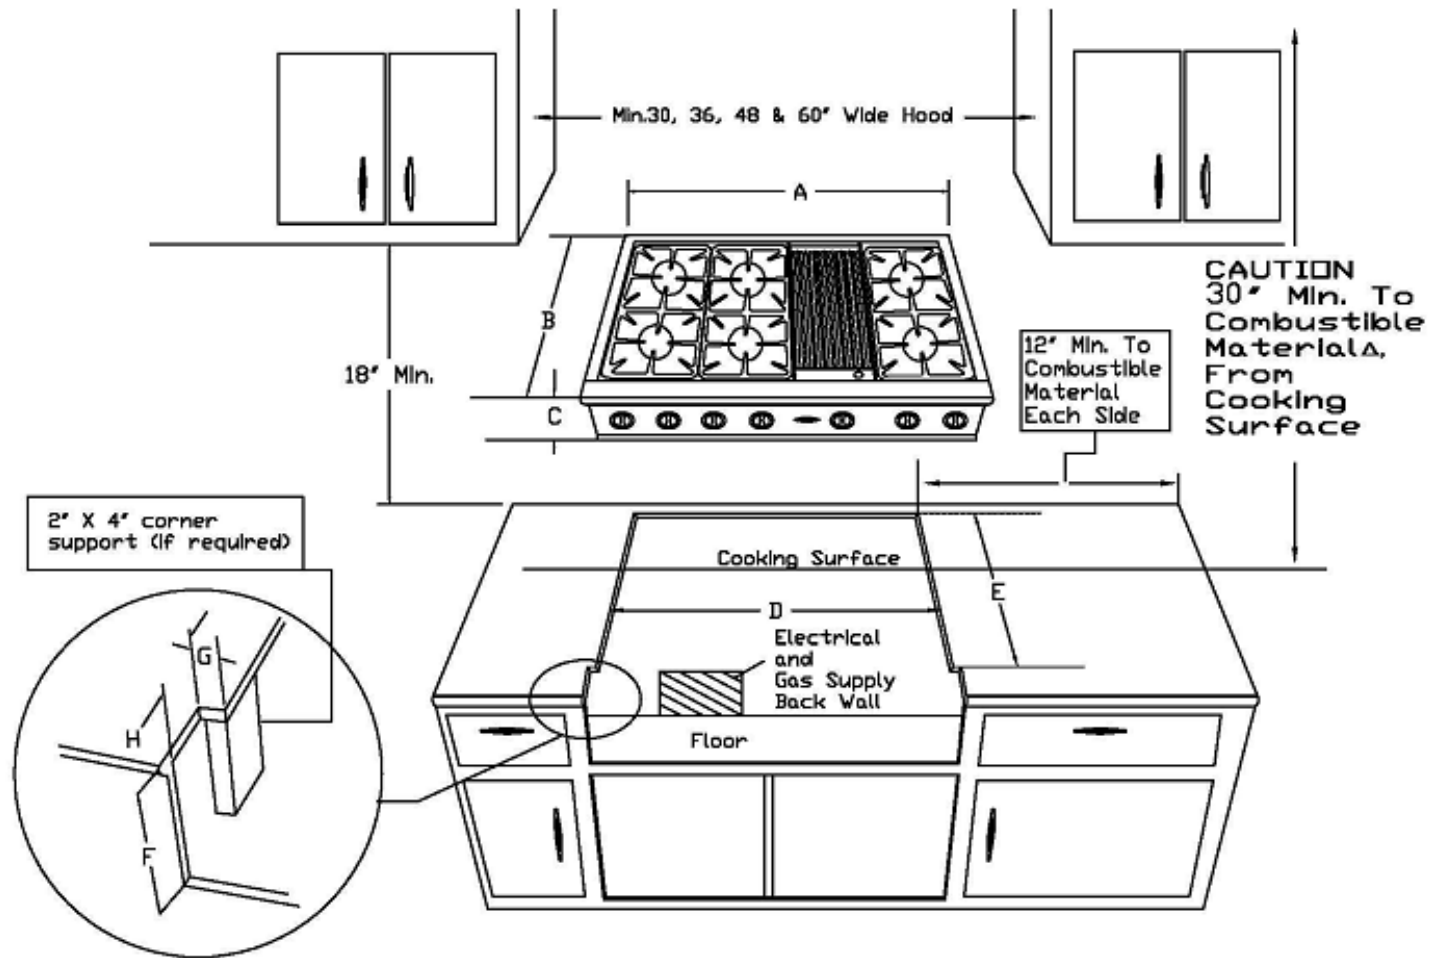

FIG 1
1. If the unit is to be placed adjacent to cabinets, the clearances shown in fig. 1 are required. The same clearances apply to island installations, except for the overhead cabinets, which must have a space wide enough to accept a suitable flared island hood, as indicated in fig. 1.
1. First measure from top of back trim to 16 3/8" to what will be the center of the mounting brackets. (see Fig 1)